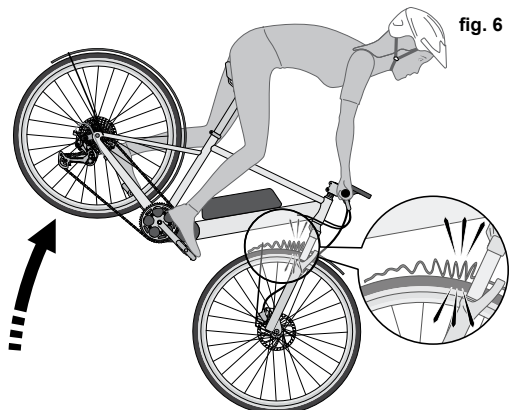

fig. 6
**WARNING:** Any object that unexpectedly and abruptly stops the rotation of the front wheel can cause the eBike and rider to pitch forward (fig. 6), which can result in serious injury or death.